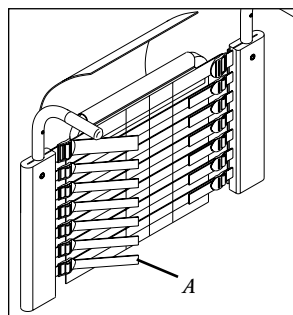

Figure 14
1. Contour Adjustment (Fig. 14)
- To modify the contour of the Jay Precision Back: Pull the Tensioning Straps (A) inward to increase the tension and lift the tab of the Tension Lock Buckle to release it.